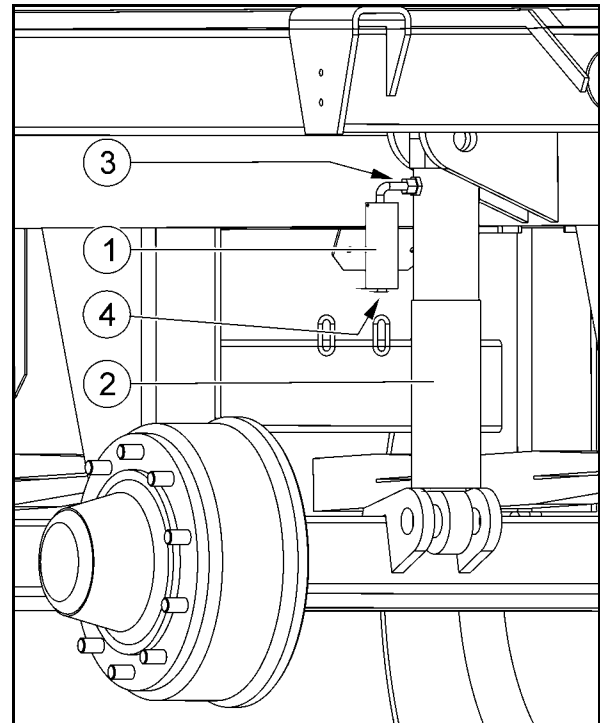

Fig. 142
- drain the condensate from the oil storage tank (Fig. 142/1),
- check / top up oil level in the oil storage tank (Fig. 142/1). Each of the four oil storage tanks must be half filled with hydraulic oil HLP 46, i.e. the quantity when filled is 100 ml.
5. Completely lower all four hydraulic cylinders (Fig. 142/4) of the hydraulic levelling device: